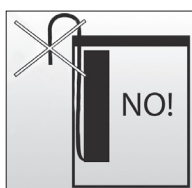

fig 22
- Position the skimmer, as suggested in fig. 22, so that the water level is at the mid-height of the grid to guarantee adequate surface aspiration.